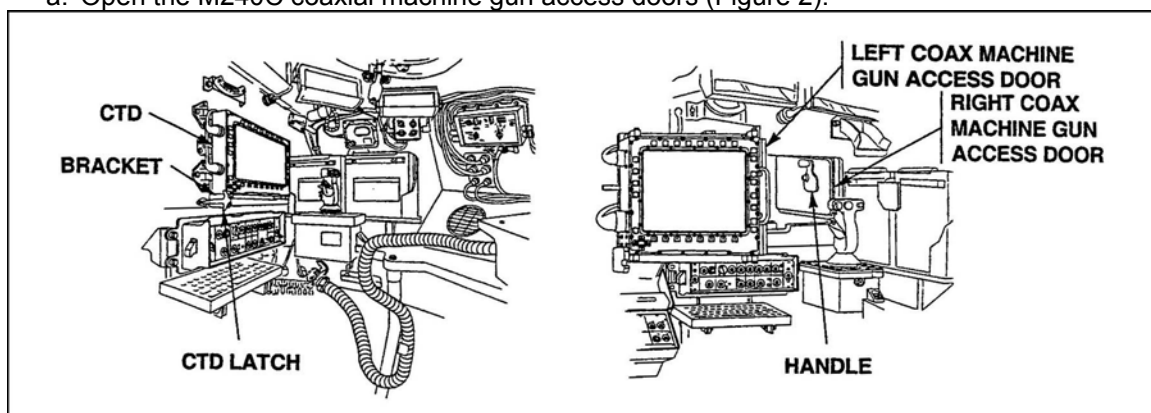

Figure 2. M240C access doors.
- a. Open the M240C coaxial machine gun access doors (Figure 2).